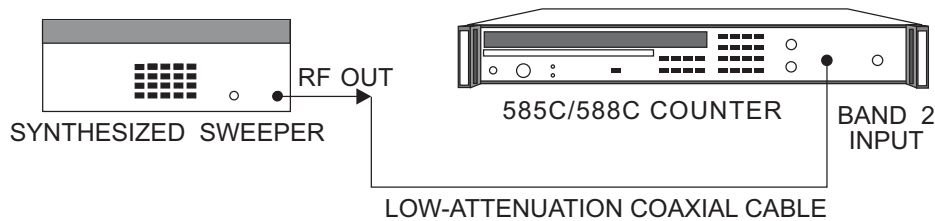

Figure 6-14. Band 2 Frequency Limits Test Setup
1. Connect the equipment as shown in Figure 6-14, and turn the equipment on.